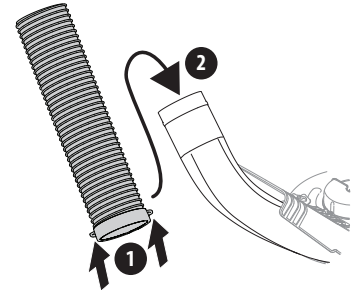

Figure 24
2. Slide the hose over the boot mounted on the cutting deck, as shown in Figure 24.